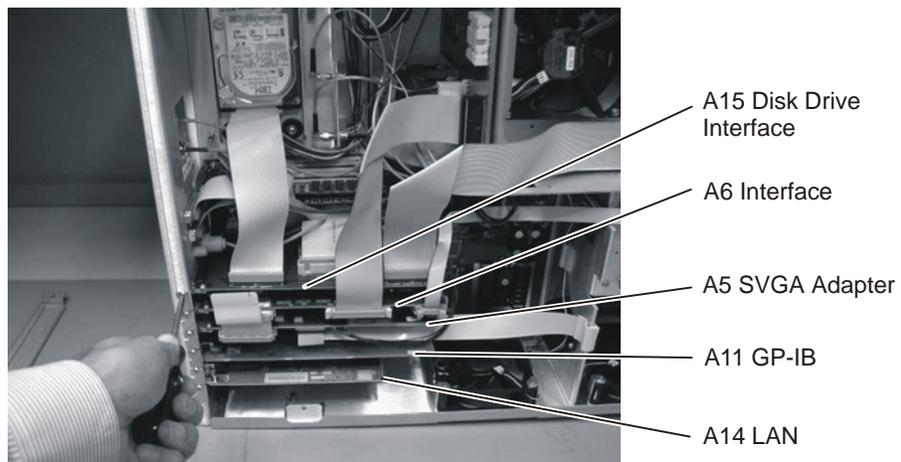

Figure 7-34. Removing the Circuit Boards from the Motherboard
- 4 Use a T-15 TORX driver to remove all of the circuit boards from the PC slots, as shown in Figure 7-34.